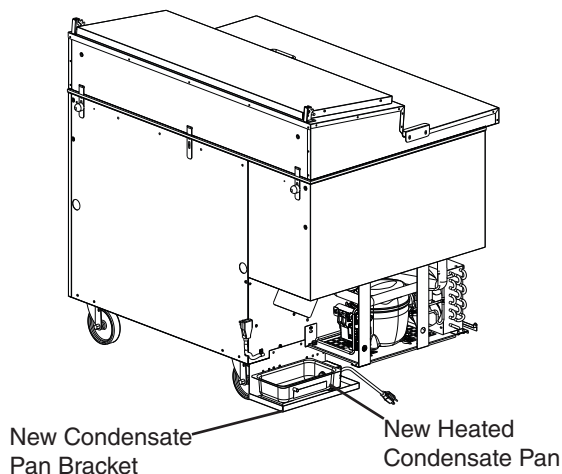

**Fig. 2**
- 4) Remove the front, left side, and rear louver panels. See Fig. 1. Next, remove the current condensate pan and condensate pan brackets as shown in Fig. 2 and discard, then remove the condensate drain hose. Note: Remove elbow from condensate drain hose for re-use, then discard condensate hose.